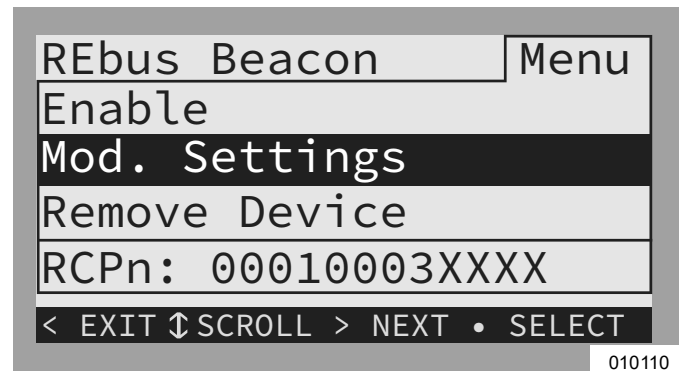

Figure 6-12. Configuring TOU Schedule (2 of 4)
- See Figure 6-12. Use the up and down arrows to highlight Mod. Settings and press the center button to enter the settings menu.